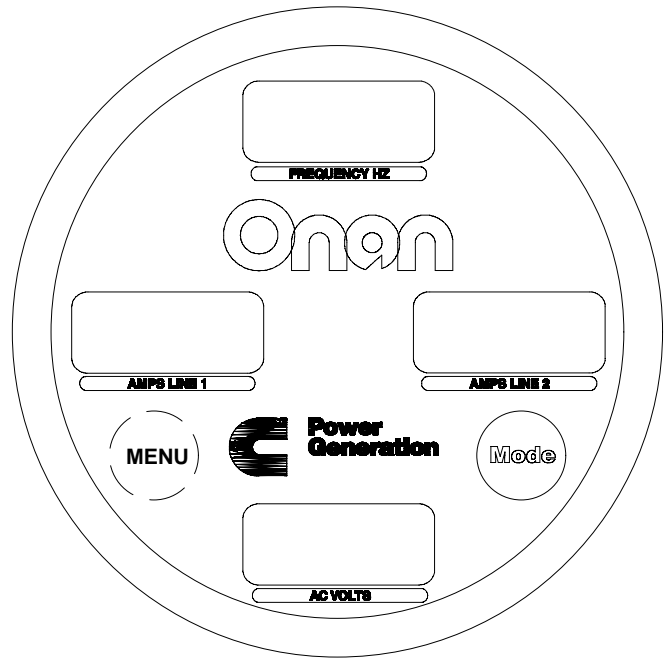

FIGURE 3. GENSET DISPLAY MODULE
Locate the genset display module (Figure 3) at a convenient location. It should be in view from the genset ON-OFF switch. Mount the display module with four (4) 1/8 inch screws. Interconnect it with the other system components with lead harness Nos. 338-4087, 338-4088 and 338-4089.